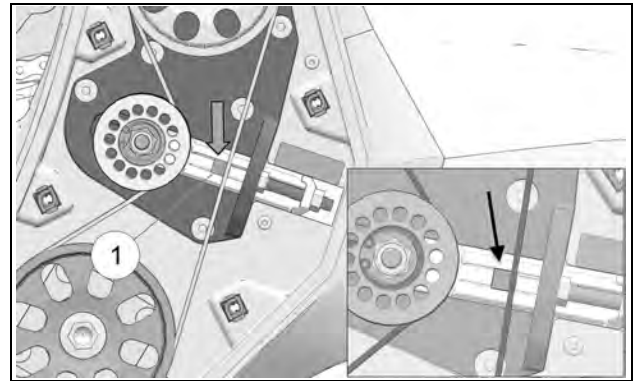

Figure 39
- Slide the red tension gauge (1), incorporated in tensioner mechanism, to the outer edge of the Syncrodrive belt. See Figure 39.